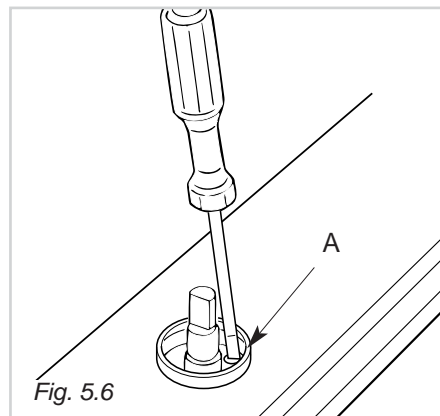

Fig. 5.6
**On gas valves provided with adjustment screw on the valve body (fig. 5.6):**